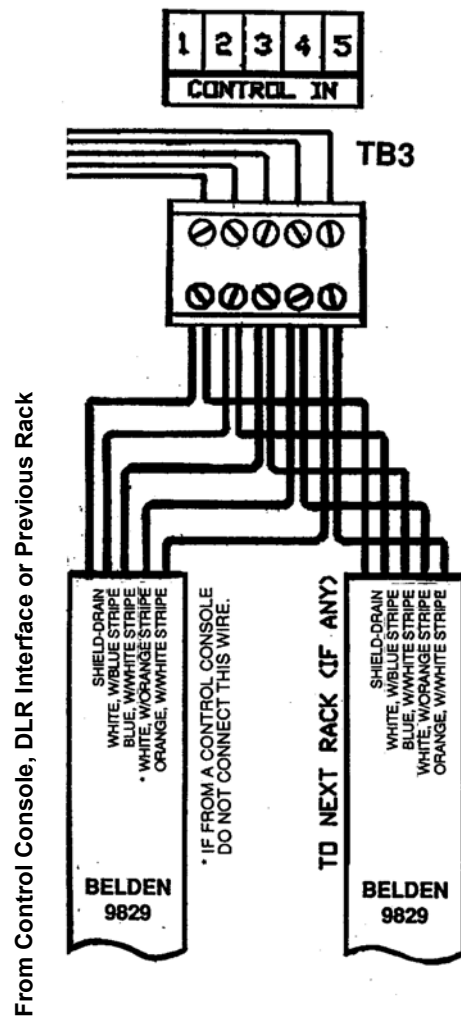

Figure 5
- Connect the control wires to the 5-position terminal strip in each rack as shown in Figure 5.